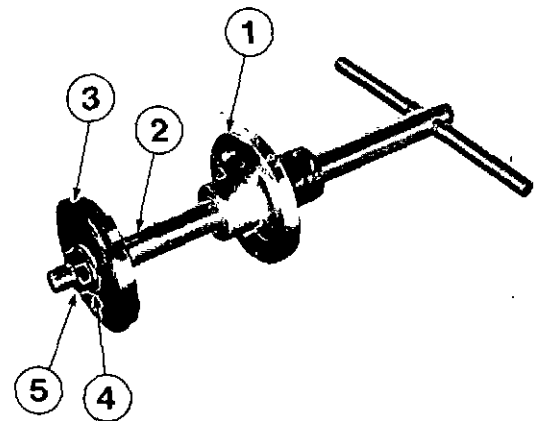

Fig. 1-29 (V10196). The Part No. ST-1318 Chamfer Tool.
2. Install the guide plate (1, Fig. 1-29) on the main shaft.
3. Use a flat washer and nut to install the cutter (3) on the main shaft. Tighten the nut.